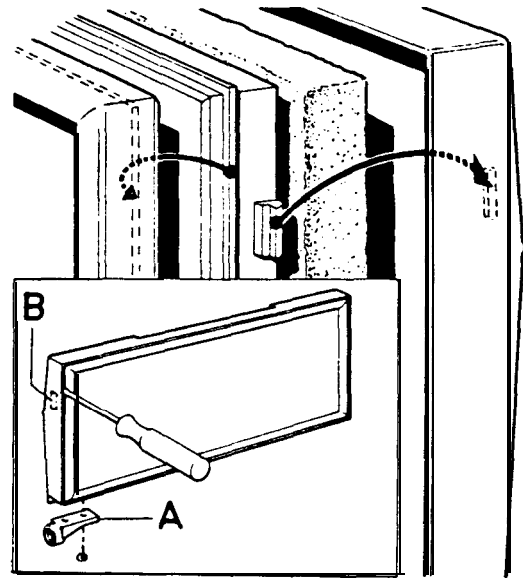

Fig. 29
2. Unscrew the hinge plates (A fig. 29).
4. Pry the shutter front away from the inner pan by means of a screwdriver (fig. 29).
CAUTION: It is of great importance that the screwdriver is applied in front of one of the plastic tongues (B fig. 29) which hold the inner panel and the shutter front together.